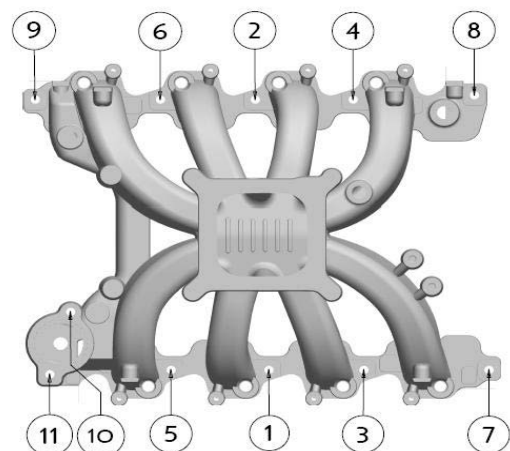

Figure 1 - Torque Sequence
5. The manifold bolts (including the thermostat housing bolts) can now be tightened according to the torque sequence (**See Figure 1**).